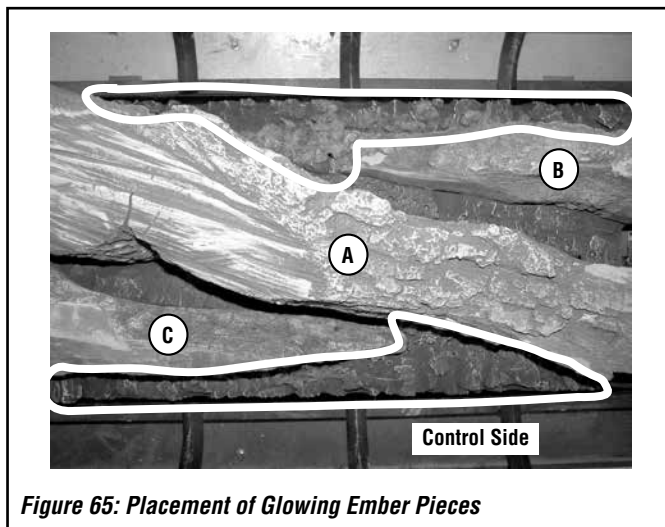

Figure 65: Placement of Glowing Ember Pieces
- b) Distribute the dime-sized pieces over the surface of the burner, in the areas shown in **Figures 65 and 66**.